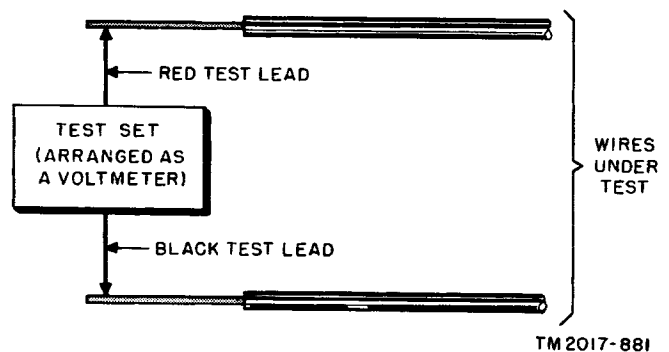

Figure 27. Simplified test setup for measuring dc voltage between two wires.
*a.* Use the procedures outlined in (1) through (5) below to measure the voltage between wires of a pair.
(1) Arrange Test Set TS-26(\*)/TSM as a voltmeter (par. 15a). *Use the 0- to 600-volt range.*
(2) Connect the red test lead to one wire of the pair under test (fig. 27).
(3) Connect the black test lead to the other wire of the pair under test.
(4) Read the VOLTS D. C. scale (par. 17b). Push the REV. SW. switch in the other direction if the meter needle moves off scale on the left side of the meter. The meter needle should be on the scale. *Keep the eye directly above the meter needle when obtaining this measurement.*